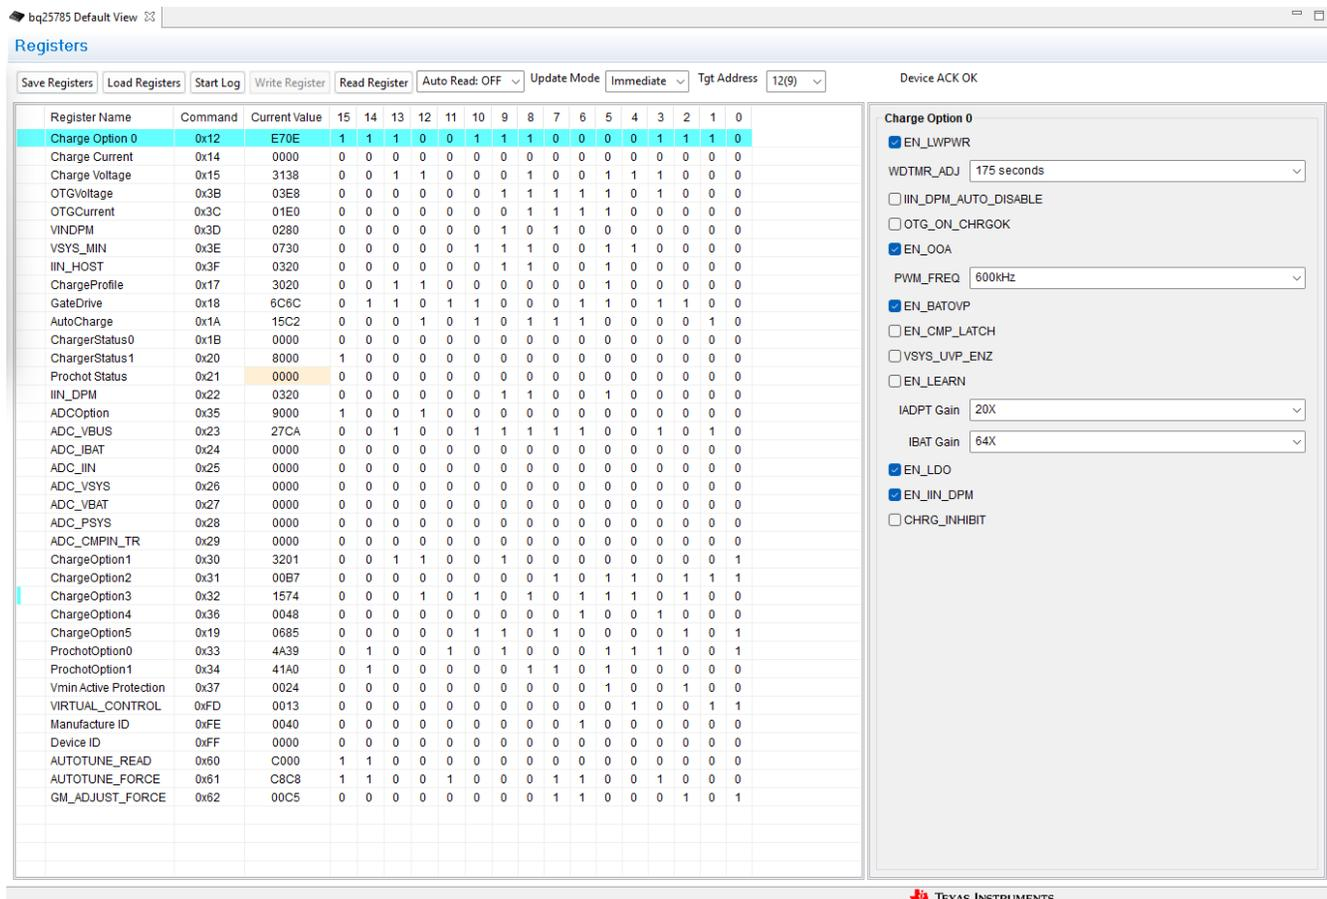

Figure 2-3. Main Window of the BQ25785 Evaluation Software
- c. After selecting the target device, click the *Read Register* button and the interface in Figure 2-3 is presented. *Device ACK OK* appears on the top right corner of window to indicate a successful communication.